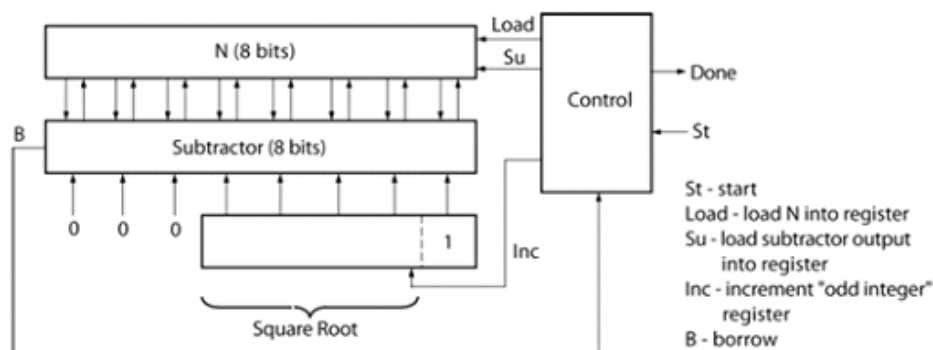

Figure 4. Square Root Module Block Diagram
Read the lab carefully and show the steps associated with calculating the square root of 16 and 34 using the hardware shown in Part II of the lab (See Figure 4). Draw a state diagram for the control circuit in II. The control circuit should output a done signal when the square root is complete and wait until $St = 0$ before resetting. The N register should be loaded when $St = 1$.
1. Write the Verilog code for an 8-bit Square Root unit, as shown in Figure 4. Your Verilog module should have the following inputs and outputs: